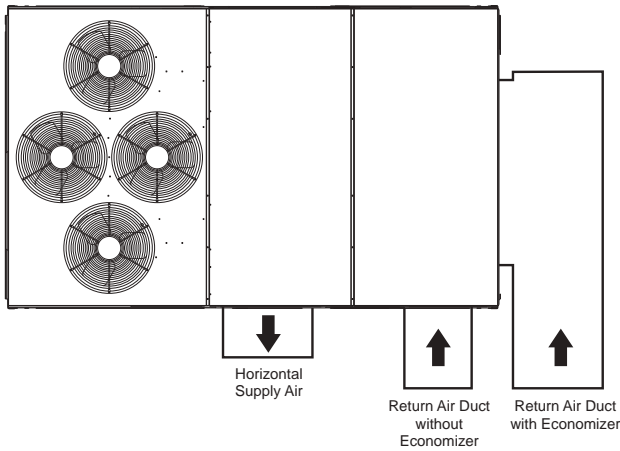

Fig. 12 — Horizontal Duct Opening Dimensions
Step 7 — Horizontal Duct Connection — Refer to Figs. 2, 3 and 4 for locations and sizes of the horizontal duct connections. Note that there are two different return air duct connection locations – one for unit without an economizer (on back side of unit) and a different one for unit equipped with an economizer (on left end, under the economizer hood). The supply air duct connection is on the back side. See Fig. 12 for top view depicting typical horizontal duct arrangements.
Field-supplied ($\frac{3}{4}$ -inch) flanges should be attached to horizontal duct openings (see Fig. 12) and all ductwork should be secured to the flanges. Insulate and weatherproof all external ductwork, joints, and roof or building openings with counter flashing and mastic in accordance with applicable codes.